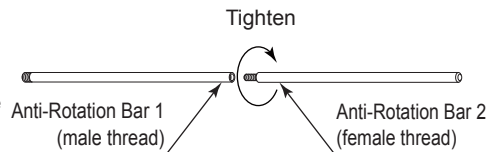

Fig. 10
- ① Thread the Anti-Rotation Bar 1 (male thread) into the Anti-Rotation Bar 2 (female thread) (Fig. 10).